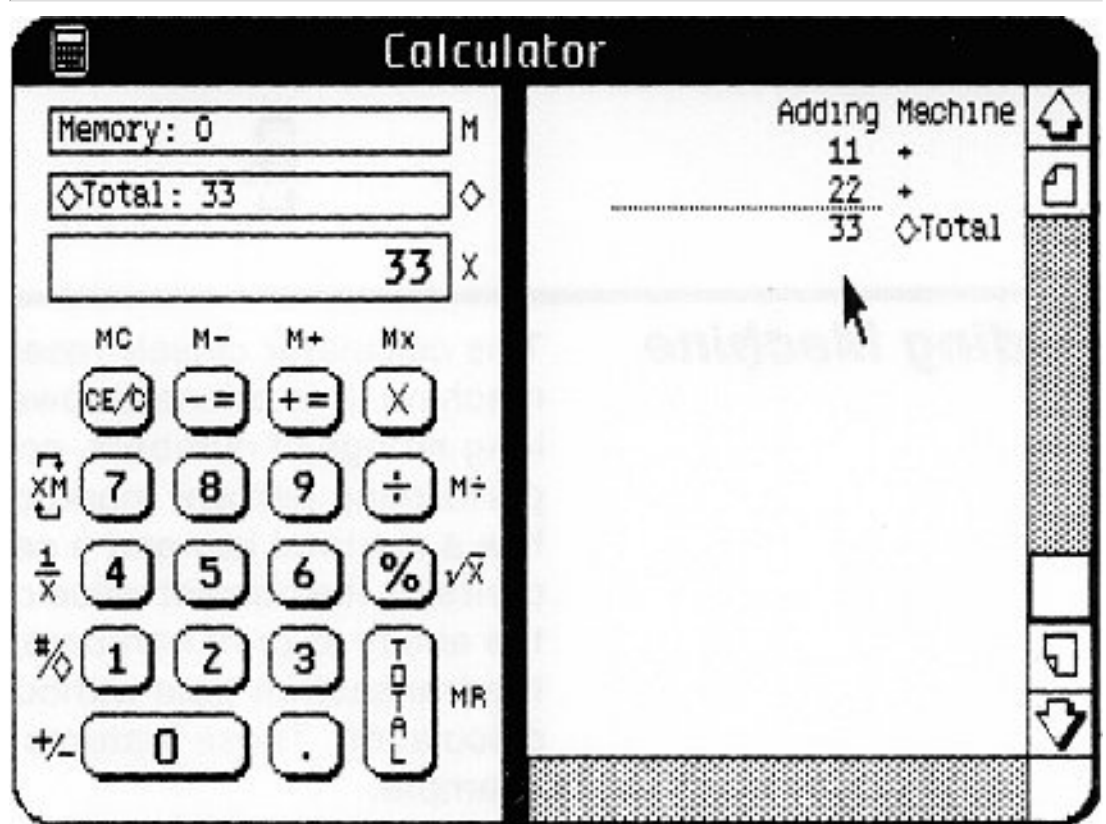

Figure 7. Adding Machine — Example 1
- ▶ Click #/0; see Figure 7 now.
In Figure 7, the subtotal 33 has been stored in the calculation register (labeled 0), displayed in the X register, and shown on the transaction tape. The dotted underscore indicates that a subtotal was taken; the actual value of the subtotal is labeled 0 Total.